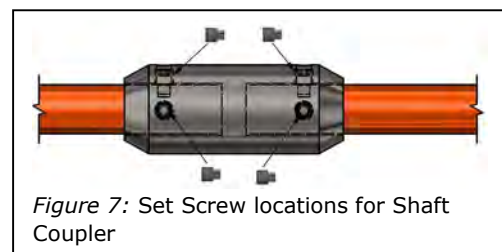

Figure 7: Set Screw locations for Shaft Coupler
- Use the Shaft Coupler to attach ONE additional shaft using the above assembly guide (Figure 7)